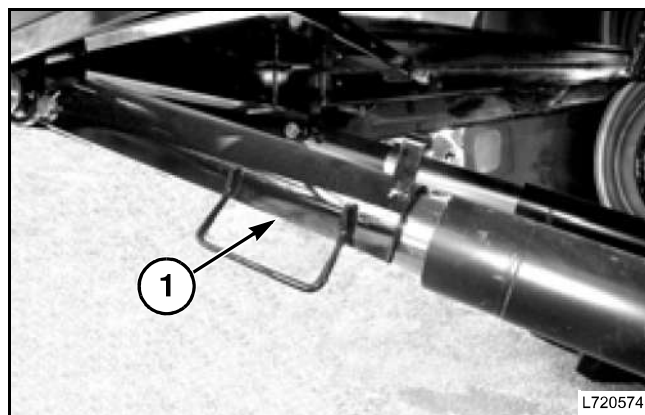

FIG. 284
FIG. 284: Put the feeder housing on the ground or fully extend the header lift cylinders. Position the header lift cylinder stop (1) so that the stop fully contacts and covers three sides the left-hand lift cylinder rod. Lower the feeder housing until the header lift cylinder stop contacts the end of the cylinder.